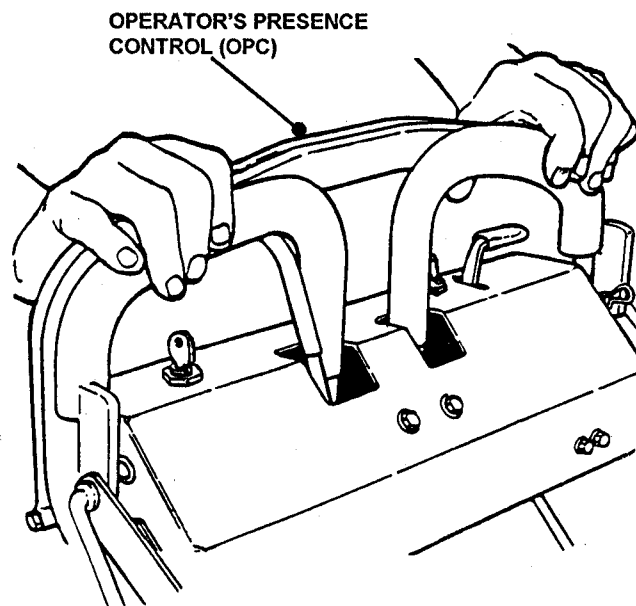

FIGURE 10
- 8a. **LOOP HANDLE** - Depress Operator's Presence Control (OPC) against handle. See Figure 10.